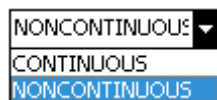

Figure 11
3. Operation Mode: Sets the reader's operation mode, as figure 11. The option is as follows: